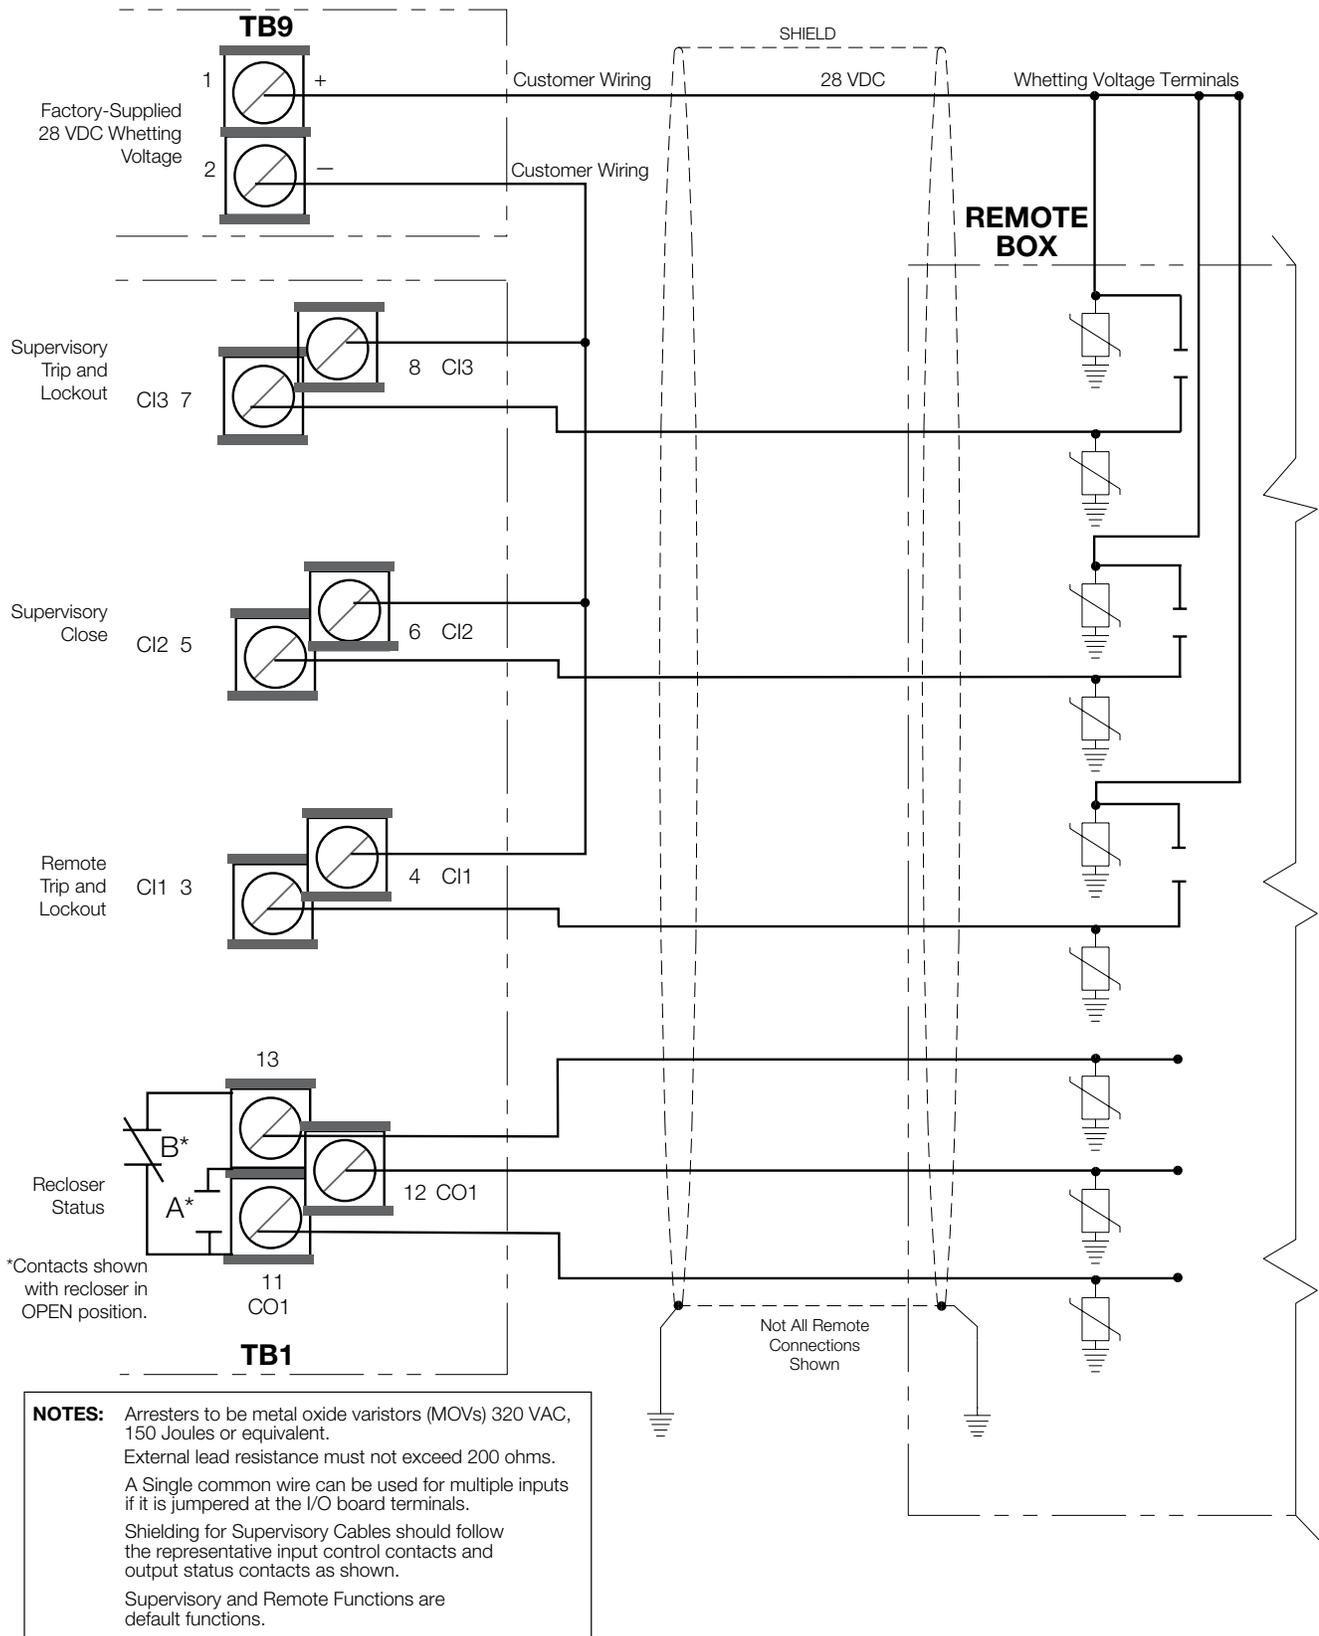

Figure 22. Shielding and Surge Protection for Supervisory and Remote Cables.
All supervisory operation and control monitor leads must be protected within shielded cables. Refer to Figure 22.
****Whetting voltage is available from the Form 6 Recloser Control on Terminal Block TB9. Refer to Figure 22.**
12. Customer connections for remote and supervisory operation checked and completed in accordance with proper shielding and surge protection (Figure 22).